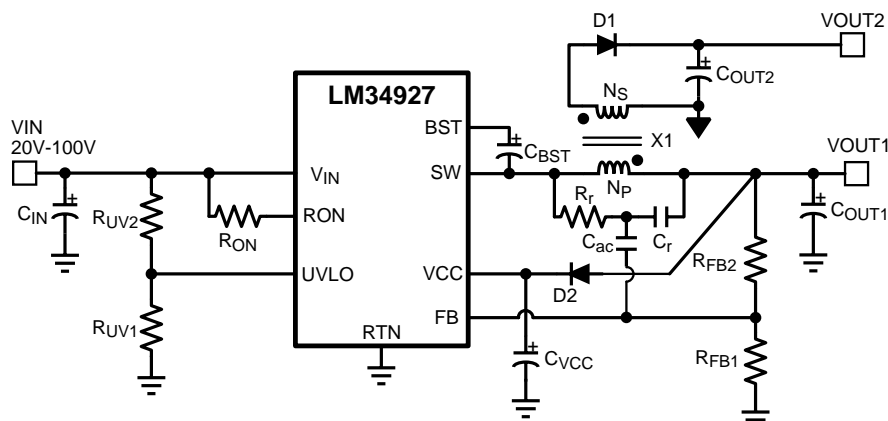

Figure 8. Typical Isolated Application Schematic
A typical isolated bias supply application is shown in Figure 8. Inductor (L) in a typical buck circuit is replaced with a coupled inductor (X1). A diode (D1) is used to rectify the voltage on the secondary output. The nominal voltage at the secondary output (V_{OUT2}) is given by: